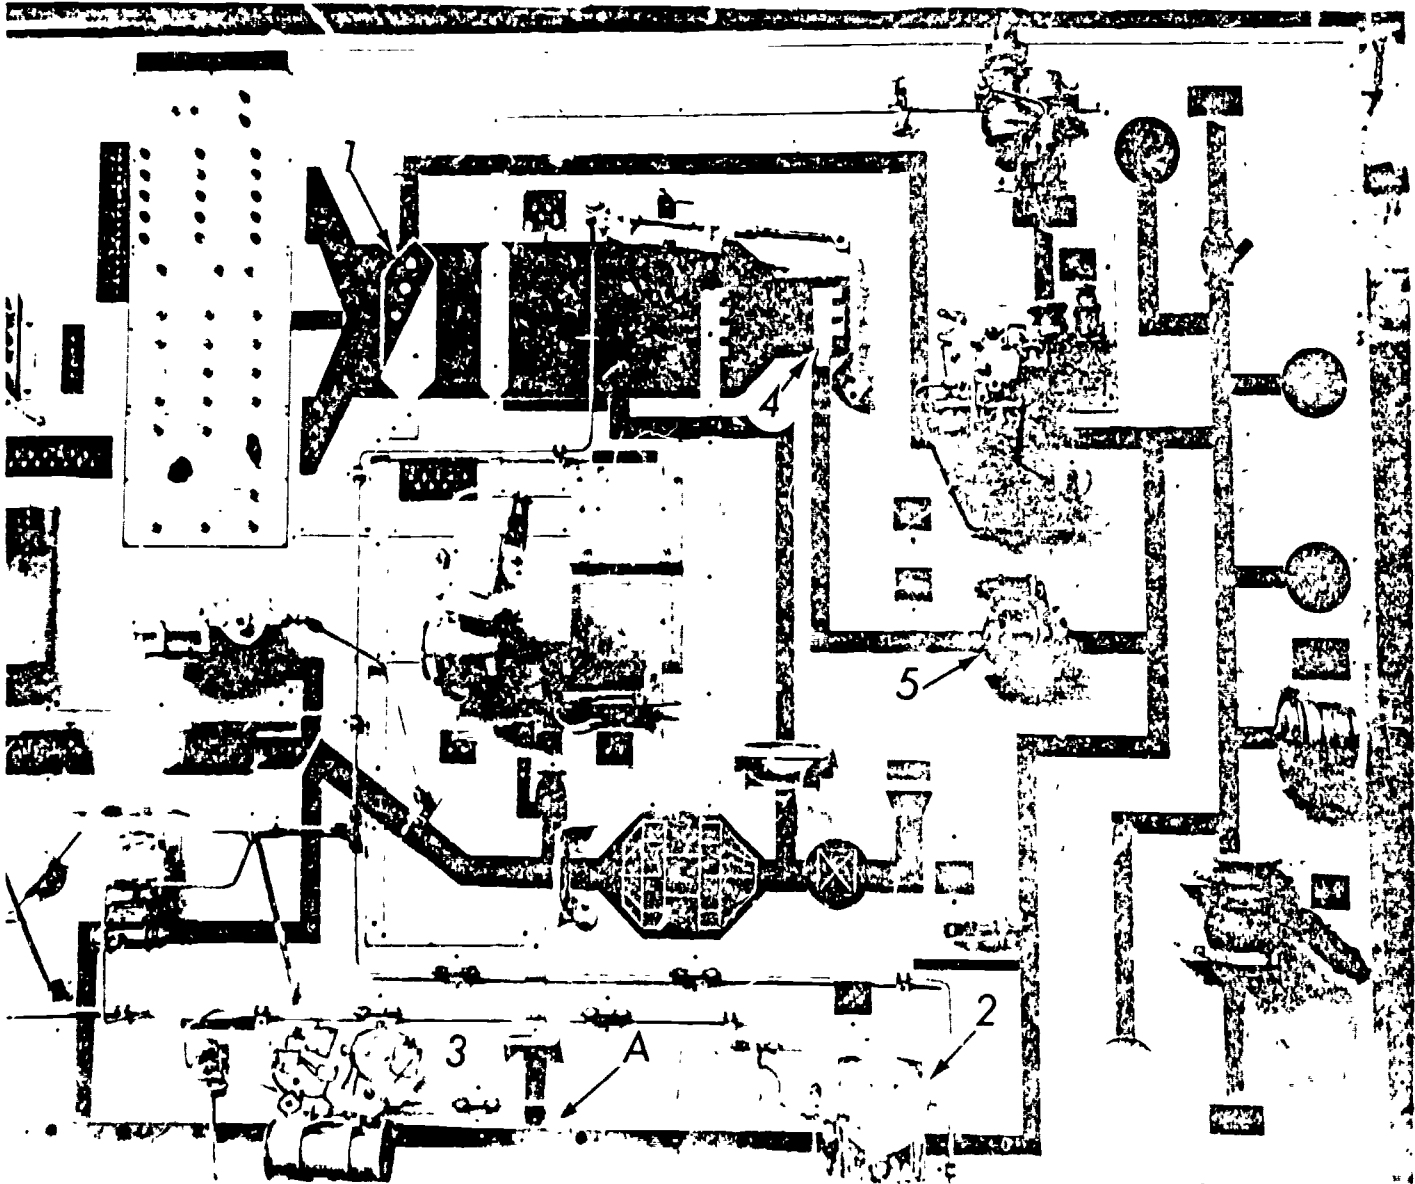

Figure 2.
Look at figure 2. Air for rain removal comes from the hot air system. The hot air system temperature is controlled at 390°F. Temperature is controlled by a mix of cool air from the air-to-air heat exchanger (1) with hot air from the hot air temperature control valve (2) at point A. This air is kept at a pressure of 45 psi by the hot air pressure regulator (3). When the rain removal system is operated, a large flow of air is required to maintain 45 psi and control the temperature at 390°F. This will cause an additional demand on the air-to-air heat exchanger to cool the air. To fix this problem an additional set of ejector nozzles (4) and an ejector valve (5) are used. When the rain removal system is turned on the ejector valve will open. Air will pass through the ejector nozzles and make a low pressure area in the ram air duct. The low pressure area is downstream of the heat exchanger. The result is an increase in ram air flow across the heat exchanger.